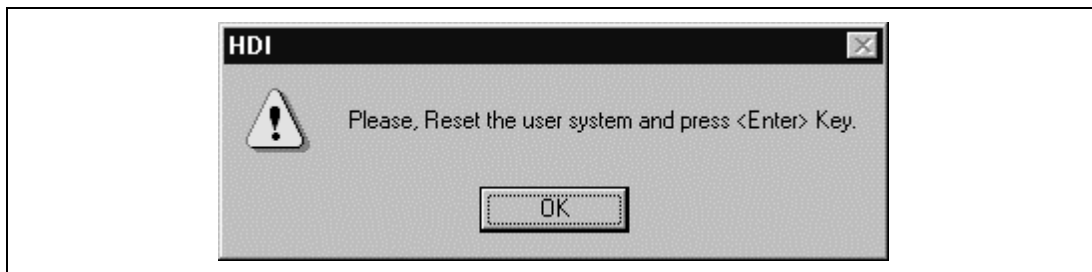

Figure 2.24 Dialog Box of the RESET Signal Input Request Message
7. The HDI window is displayed, and the dialog box is displayed as shown in figure 2.24.